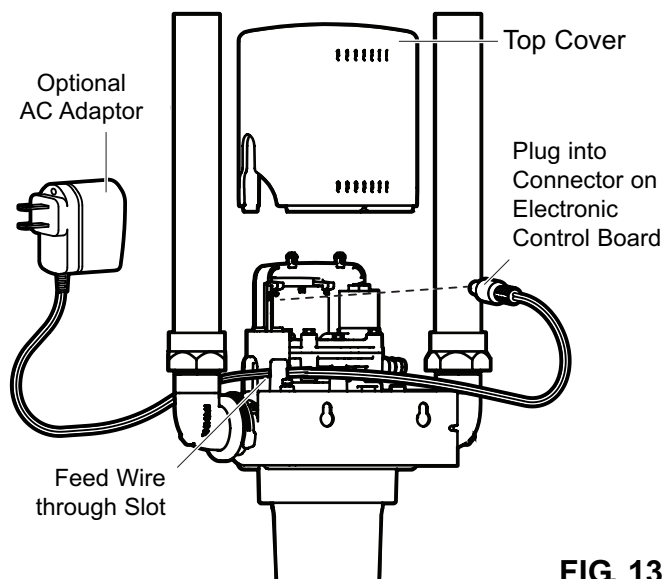

FIG. 13
An optional AC adaptor (P/N 7302835) is available to supply 9V DC power to the electronic control instead of using a 9V battery. This adaptor has 5 feet of wire. One end plugs into a household 120V AC, 60 Hz. outlet and the other end plugs into the back of the electronic control board, as shown in Figure 13. See the Repair Parts List page for ordering information.
1. Remove the top cover from the ASF by sliding it upward (See Figure 13).
3. Locate the small round plug on one end of the AC adaptor cable and insert this into the connector on back of the electronic control board (See Figure 13).
5. Before replacing the cover on the ASF, feed the wire through the small slot above the IN port of the ASF (See Figure 13).